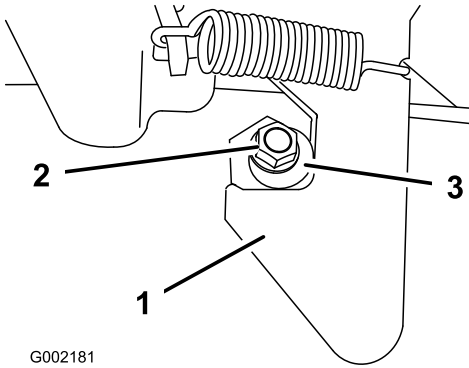

Figure 71
1. Loosen the locknut on the end of the latch post (Figure 71).
2. Rotate the latch post clockwise until it is snug against the hook portion of the latch (Figure 71).